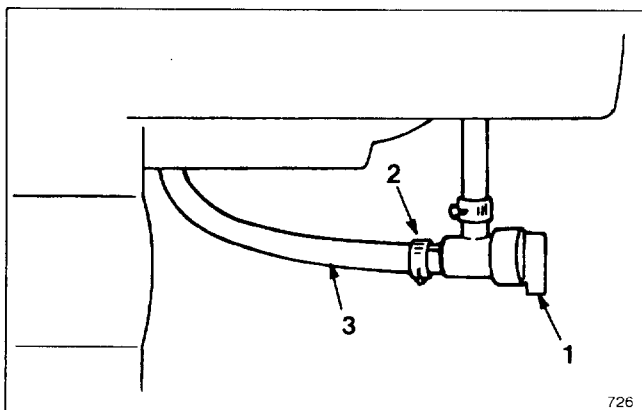

Figure 19
1. Close fuel shut-off valve located under fuel tank (Fig. 19) by rotating valve to the left.